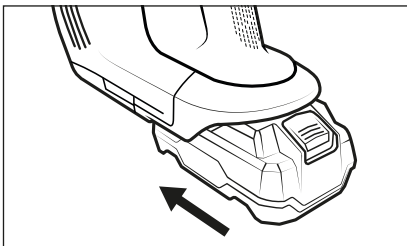

Fig. 3
- 3) Slide a battery from the X 20 V TEAM series (see section **Information about the battery**) into the battery slot **1** until it audibly clicks into place (see Fig. 3).